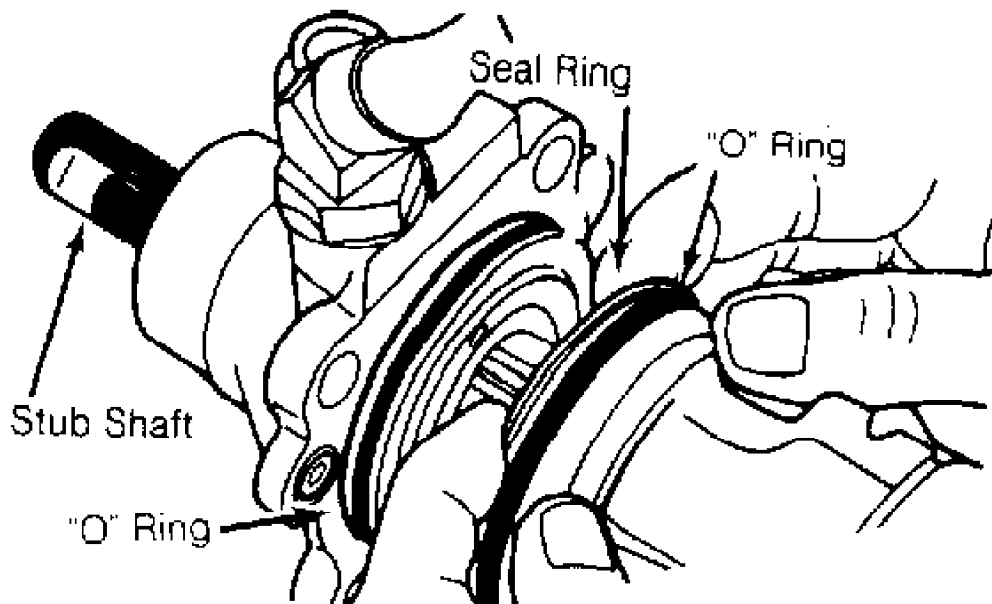

Fig. 5: Installing Rack Piston Seals
2) Install "O" ring on rack piston carefully to prevent twisting. Install seal ring to rack piston over "O" ring by expanding it. See Fig. 5. Apply a coat of grease to entire circumference of seal ring.